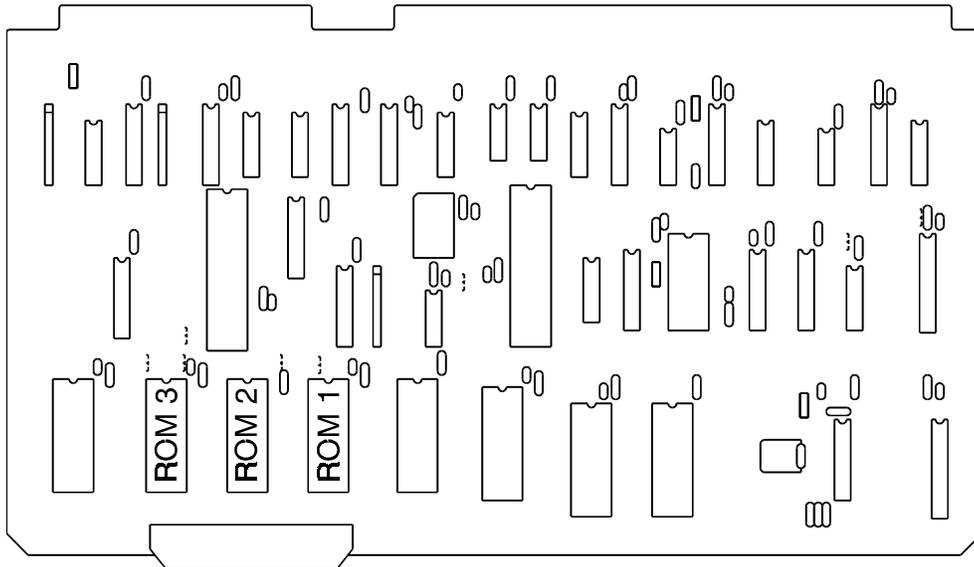

Figure 2-8. CPU Board
- a) Remove white plastic board support (item 1). NOTE: early BAS 100A models do not have the board support.
- b) Lay CPU board (Figure 2-8) on a flat surface. Components of the CPU board are sensitive to static. Do not lay the board on carpeting, plastic (e.g., bubble wrap), or other surfaces that build up static charge.
- d) Properly align new ROM1 on the socket and press in. It is imperative that the chip oriented as shown in Figure 2-8 (notched end away from the board edge with the ribbon cable connector). Be careful not to bend the legs and ensure that all the legs are inserted into the socket.
2.4 Personal Computer (PC) Installation